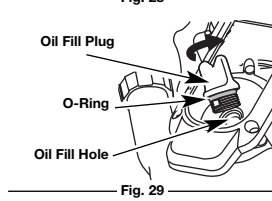

Fig. 29
6. If the oil level is not touching the inner most thread on the oil fill hole, add a small amount of oil to the oil fill hole and recheck (Fig. 29). Repeat this procedure until the oil level reaches the inner most thread on the oil fill hole.
NOTE: Make sure the O-ring is in place on the oil fill plug when checking and changing the oil (Fig. 29).